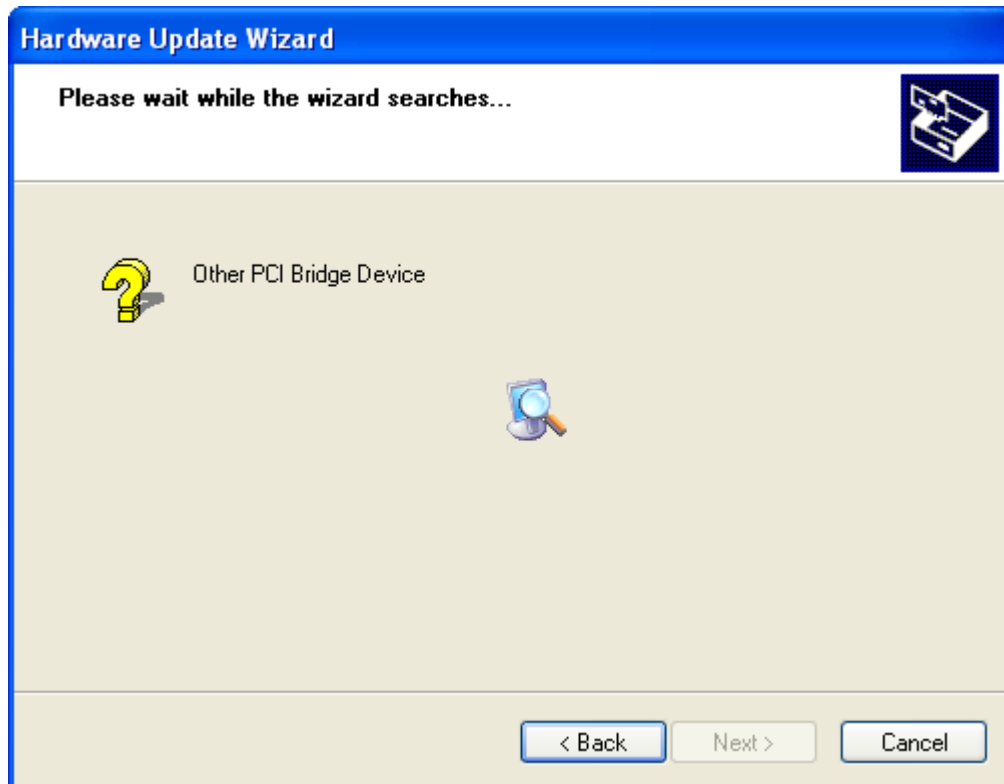

Figure 7-46: Wizard Search
Step 10: The Wizard then searches for the driver. See **Figure 7-46**.